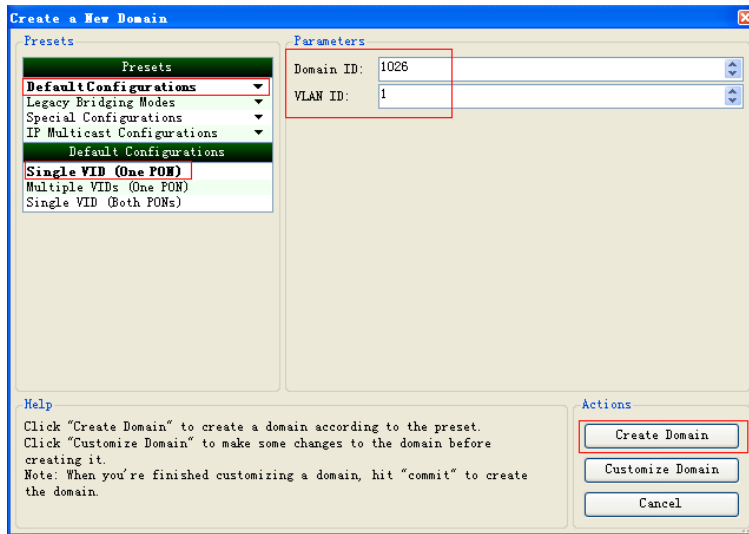

Figure 7-2 Create a New Domain
- 2) Selected the domain to be created as required; for example, here select the Single VID (One PON) in the Default Configuration and the window on the left will display the corresponding configuration parameters; fill in the Domain ID and VID, and click the Create Domain button at the lower left corner shown in the Figure 7-2;